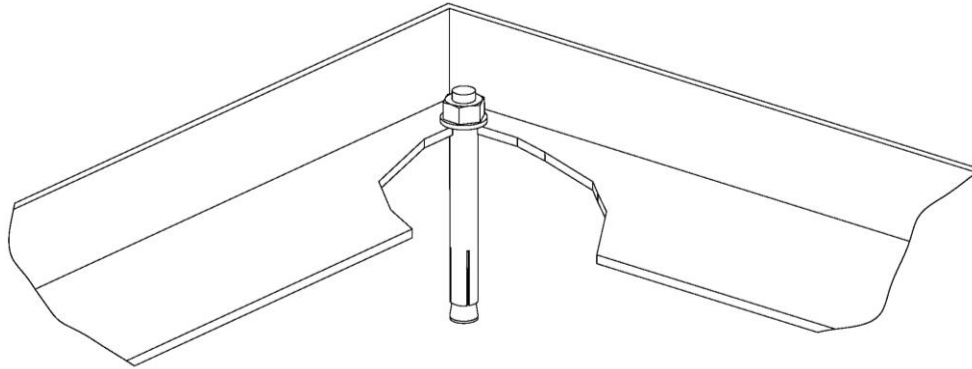

Figure 7 Anchor Bolt Detail
1. Inside the base frame are four (4) 19mm holes for lagging the unit securely to the floor. Using the four (4) holes as a template, drill a 16mm diameter hole, 90mm minimum depth at each location. The floor surface should be level and the drilled holes perpendicular to the floor. If required, shift the position of the lift with a forklift to allow room for drilling, then drill. When complete, reposition the lift.
2. As detailed in Figure 7, prepare the M12mm diameter x 120mm long anchor bolts by assembling the washer and nut on the anchor bolt. The nut should be screwed onto the anchor bolt approximately 1/2 the nut height. Drive the assembled anchor through the mounting hole into the concrete until the washer is flush with the top of the anchor plate. Expand the anchor shield by tightening the nut three (3) to five (5) turns. Repeat step 2 for the remaining anchors.